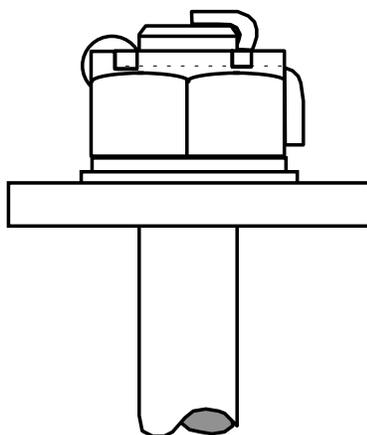

FIGURE 9-4. GENERAL COTTER PIN INSTALLATION
3. Seat the prongs firmly against the bolt and nut. See Figure 9-4, "General Cotter Pin Installation."